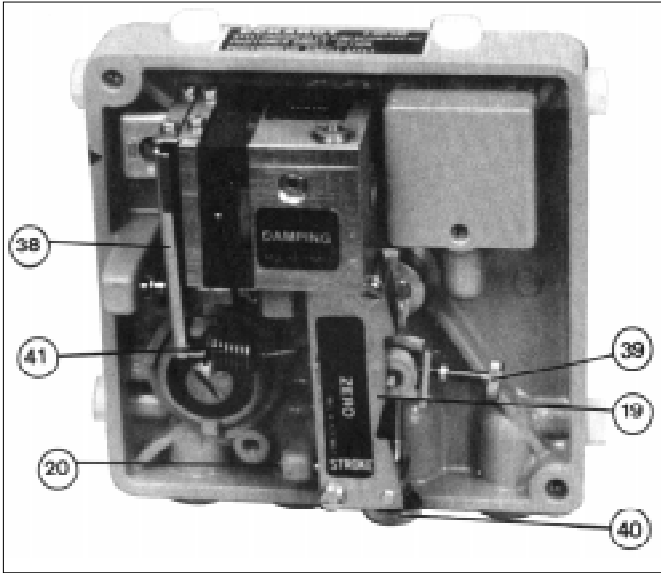

Figure 17
2. To remove/change the range spring (41) see Figure 17; hold stroke factor lever (19) against the travel stop pin (20) and simultaneously hold the zero thumbscrew (39). Using needle nose pliers, remove the end of the range spring (41) hooked to the flapper lever (38); then remove the opposite end. Reverse the procedure with the new/different range spring (41). Always make sure that the range spring's (41) coils are closest to the flapper lever (38).
3. After removal/change of the range spring (41), recalibration is required. See Section V.
#### A. ZERO and STROKE Setting: (See Figure 17)